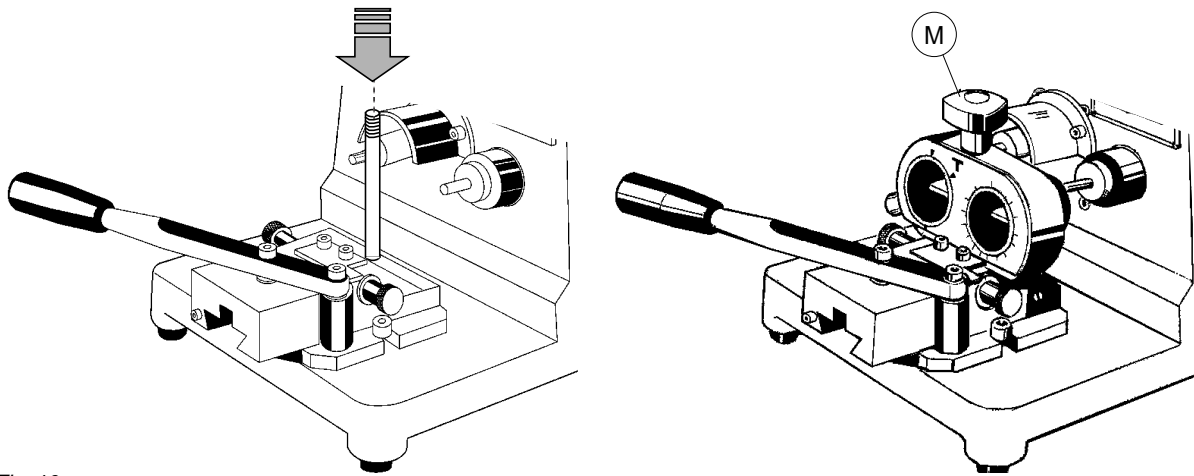

Fig. 10
- 1) Fit the chosen device on the CROWN key-cutting machine and lock in place by means of the knob (M) (fig. 10).
- 2) Place the key to be copied into the right-hand side of the device and the key to be cut in the left-hand side (there is only one possible position dictated by the shape of the key) and push in all the way up to the front stop (N). Lock in place with the grub screws (T) and (T1), which are visible through the holes on top of the device. If they are not visible, turn the key clockwise until the grub screws can be seen.
- 3) Block rotation of the device with the knob (K) and turn on the machine motor to start cutting.
- 5) Take the carriage back to the idle position, release rotation by means of the knob (K) and turn the key clockwise until it reaches the next notch, block the knob (K) and make the second cut.